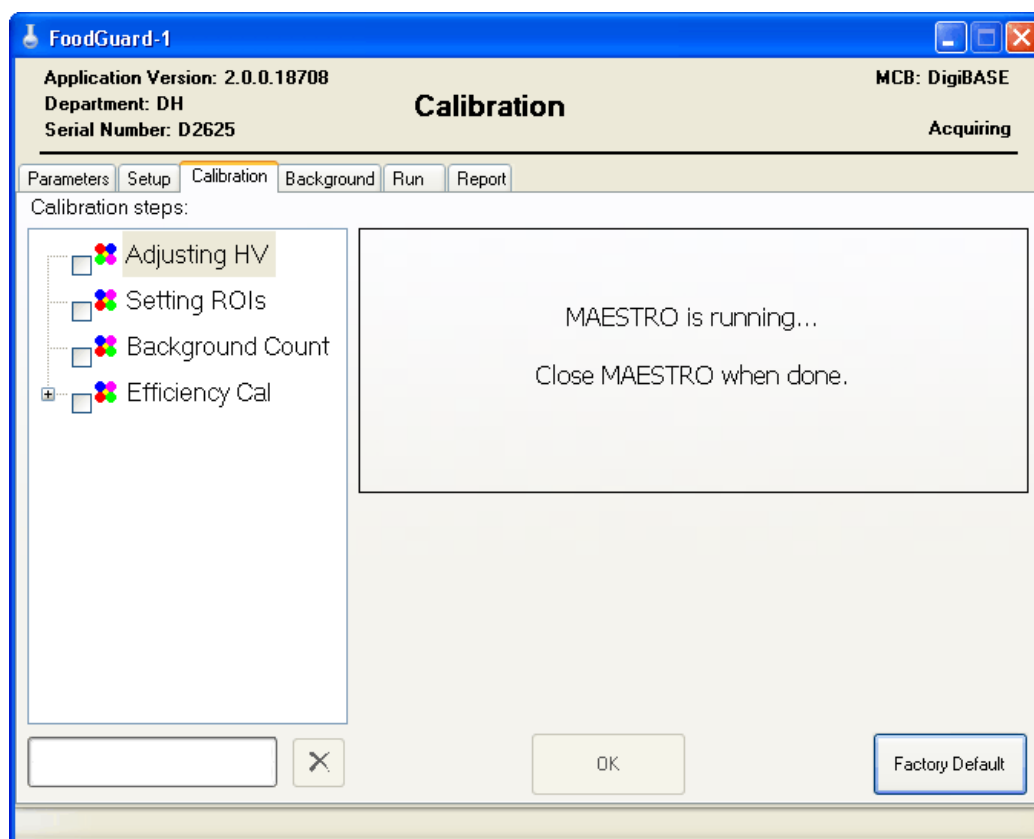

Figure 26. Calibration Screen During HV/Fine Gain Adjustment.
- With the ^{40}K check source ring in position, remove all other sources, and click **OK** to open MAESTRO. The Calibration screen will appear as shown in Fig. 26.